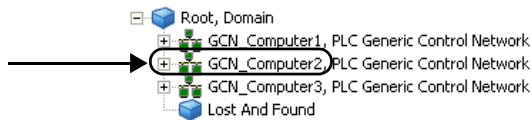

Figure 16. Generic Control Network Object
A Generic Control Network object represents a control network in the system as shown in Figure 16. Generic Control Network objects are defined in the Control Structure.
31. Select the Generic Control Network object as shown in Figure 16 on page 29.